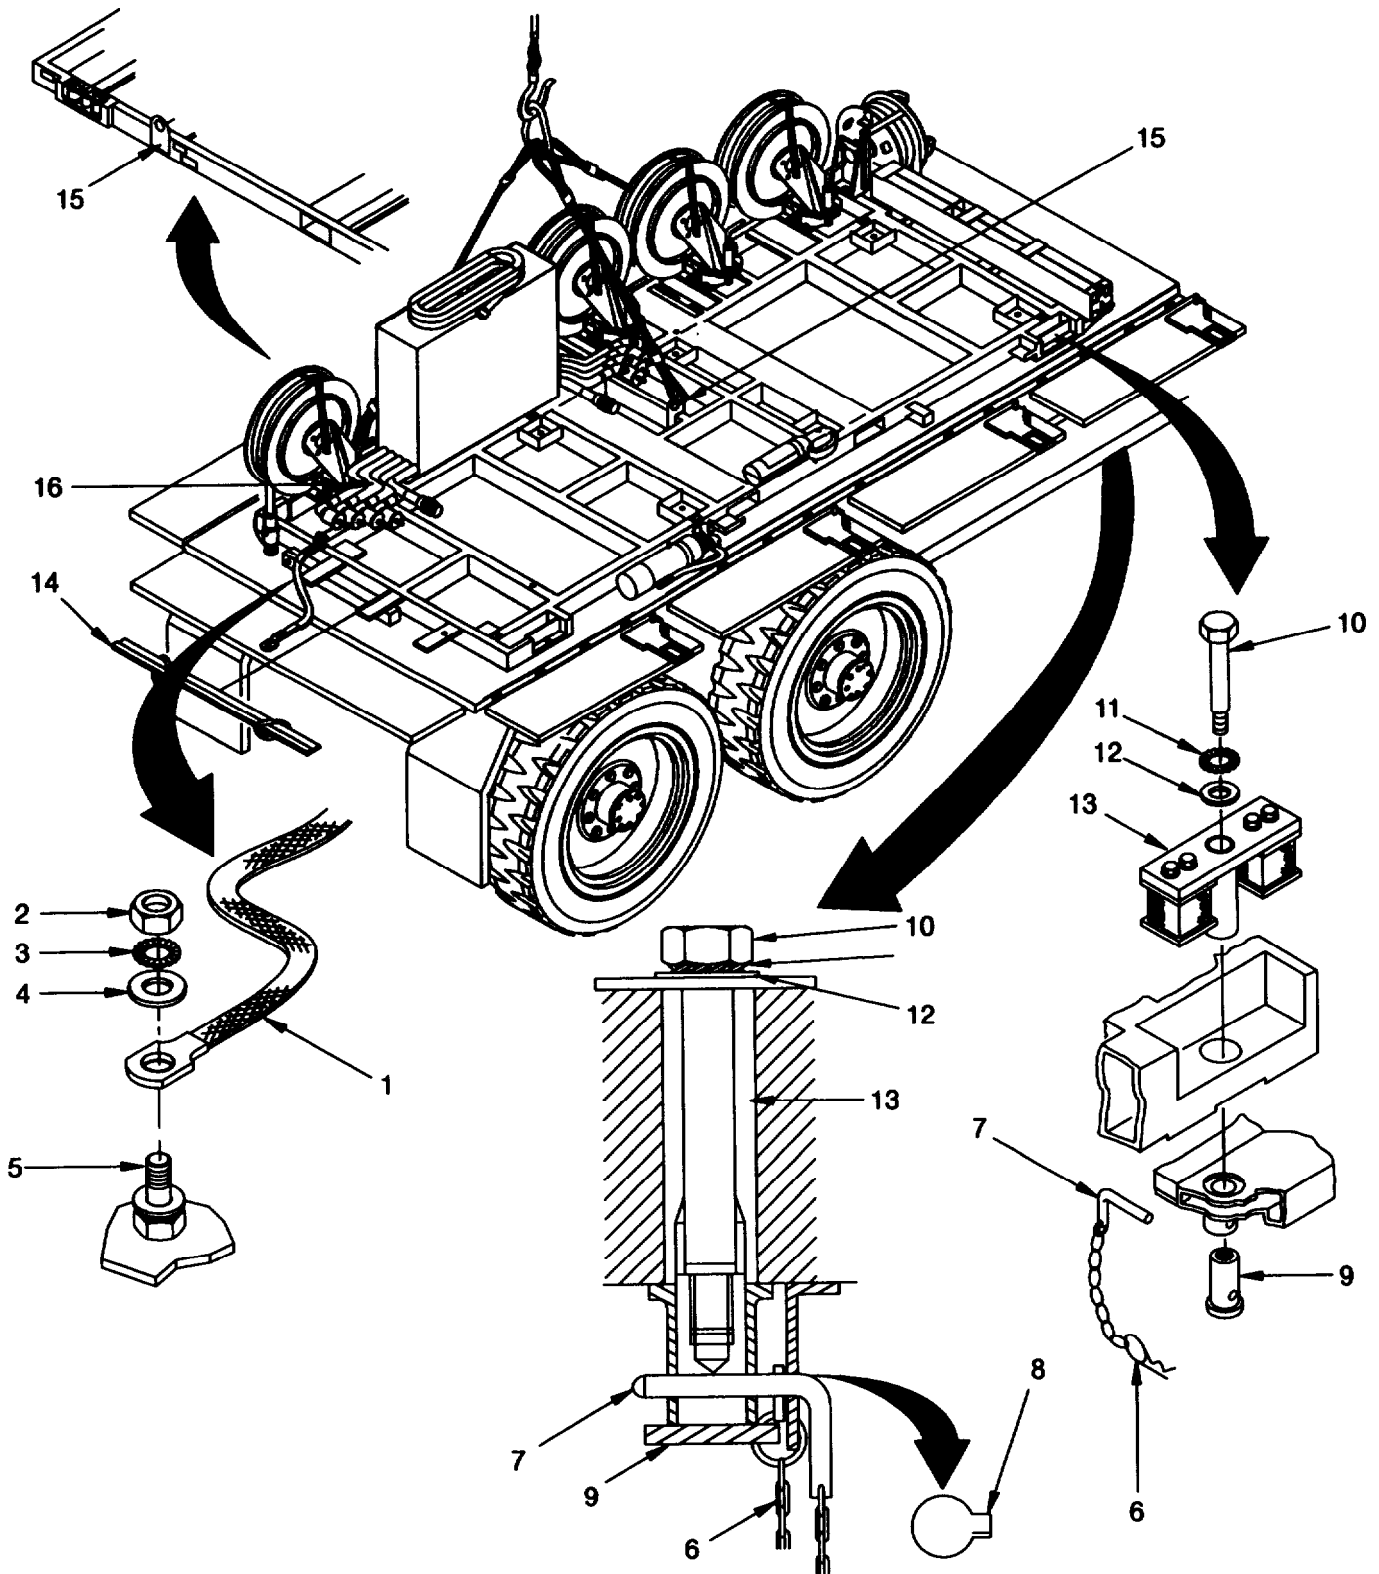
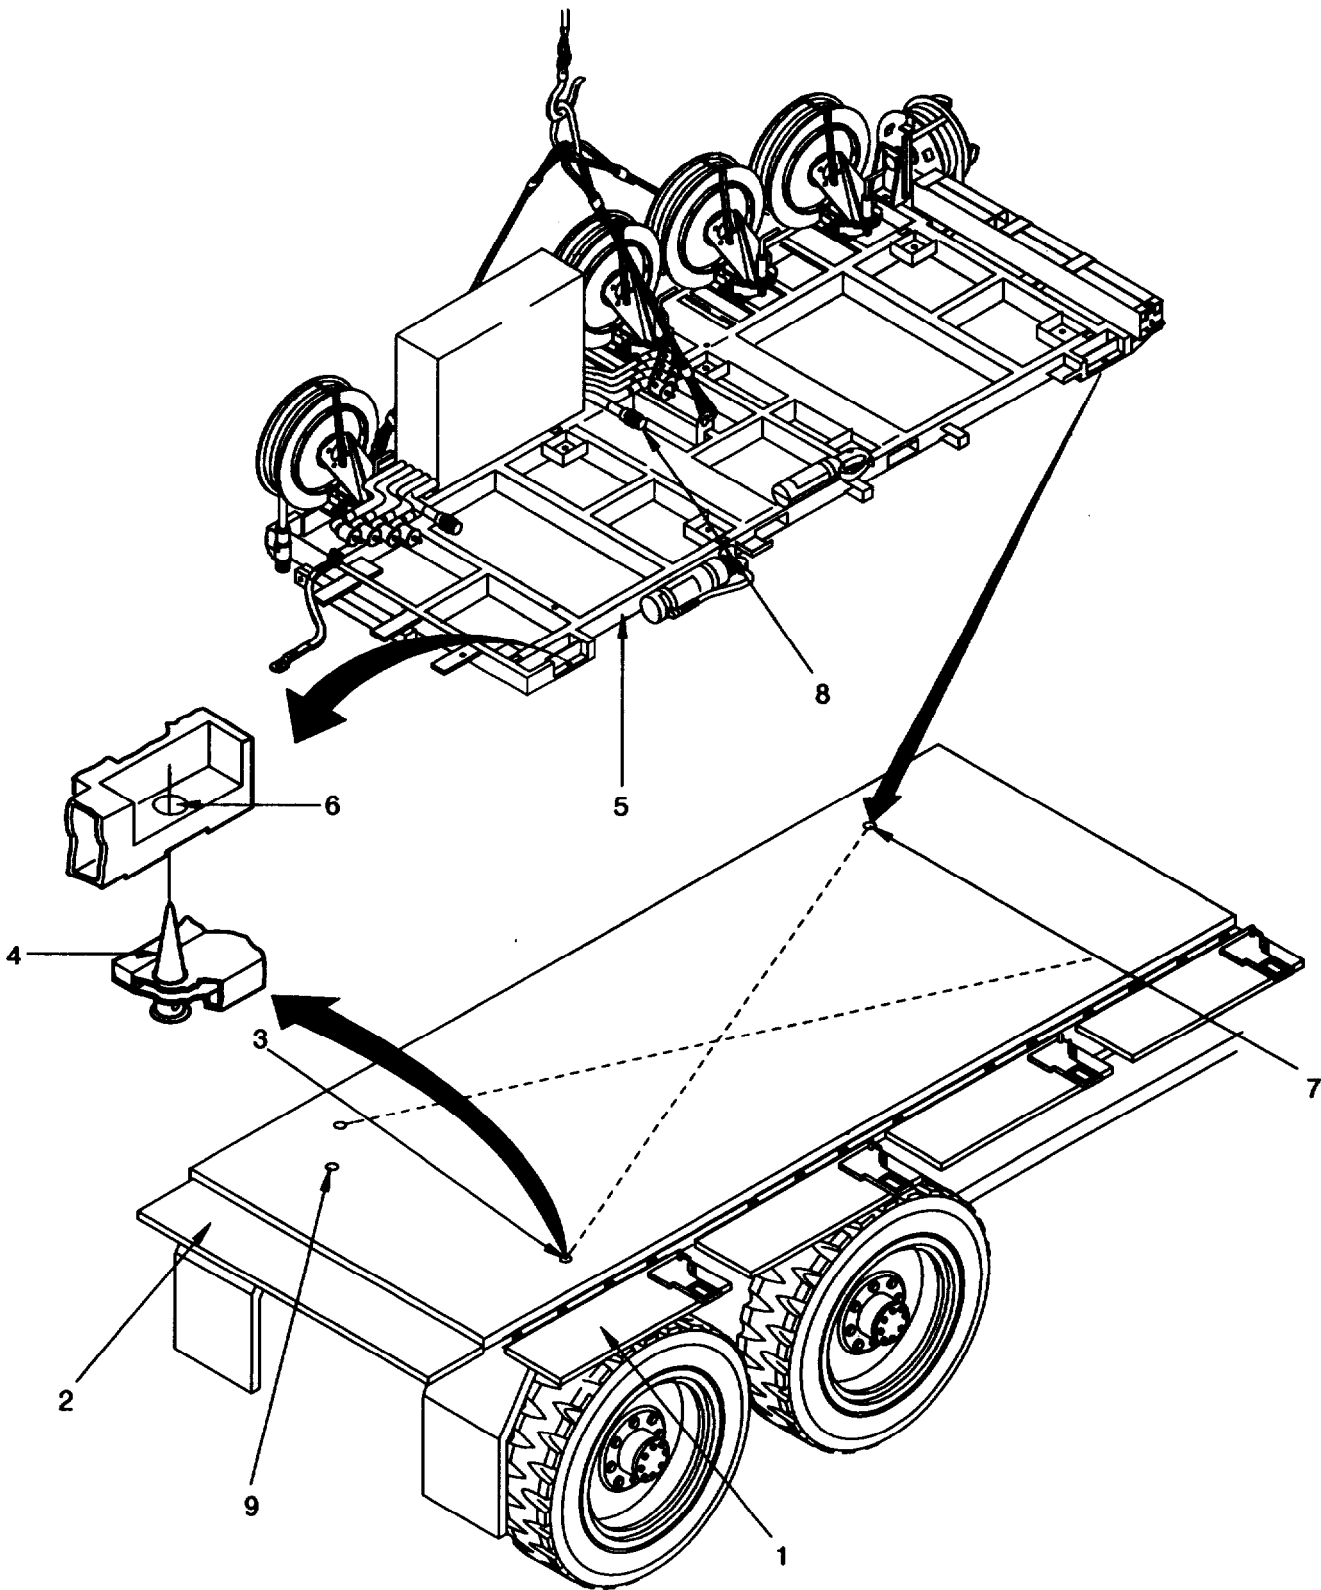

Figure 4-25 Removing the Pallet Frame from the Truck Bed wing a Crane.
Figure 4-28 Installing the Pallet Frame on the Truck Bed wing a Crane.
- b. Remove nut (2, figure 4-25), serrated lock washer (3), washer (4), and grounding strap (1) from grounding bolt (5) on truck bed. Leaf washer on grounding bolt (5) and temporarily thread parts 2 to 4 on grounding bolt (5).
- c. Remove bolt (10), serrated washer (11), and washer (12) from threaded bushing (9).
- d. Bull spring pins (6) out of studs (7) at all four corners of the pallet frame.
- e. Rotate (unlock) stud (7) so it can be pulled out through threaded bushing (9).
- f. Remove tightening assembly (13) from pallet frame. The pallet frame is now sitting unattached on the truck bed, so it can be lifted off.
- c. On the truck bed, fold the side panels (1, figure 4-28) and tailgate (2) down to the horizontal position for access. On the opposite side, fold the side panel (1) all the way down. The pallet frame will be installed from this side.
- d. Install guide mandrels (4) into holes (3, 7).
- e. Move pallet frame (5) so it is centered over the truck platform.
- f. Lower pallet frame to about 4 inches (10 cm) above platform, and suspend it so frame member (6) site in guide mandrel (4).
- i. Insert threaded bushings (9, figure 4-25) from below into the two diagonally opposite mounting points that are still unoccupied. Push stud (8) through and secure with spring pin (6).
- j. Install the two diagonal tightening assemblies (13).
- k. Coat the threads of bolt (10) with Loctite 243 and install using serrated washer (11) and washer (12), onto threaded bushing (9). Tighten bolt (10) to a torque value of 176.88 ft-lb (240 Nm).
- l. Pull out the two guide mandrels (4, figure 4-28) one after the other, and install the remaining tightening assemblies as instructed in steps i. through k.
- m. Install ground strap (1, figure 4-25), washer (4) and serrated washer (3), and secure with nut (2). Torque nut (2) to a torque value of 14.74 ft-lb (20 Nm). Apply terminal grease to threaded connection (5).
Arrange PDU connector cable (8, figure 4-28) on the pallet frame so it can not be damaged when the pallet frame is set down.